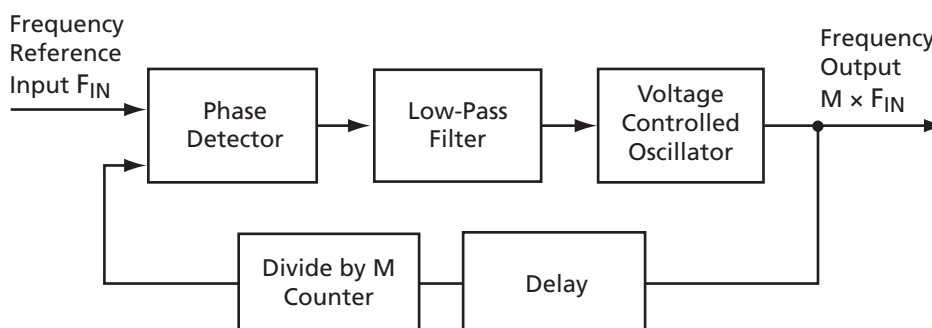

Figure 3-18 • Simplified PLL Core with Feedback Divider and Delay
This section briefly describes the basic principles of PLL operation. The PLL core is composed of a phase detector (PD), a low-pass filter (LPF), and a four-phase voltage-controlled oscillator (VCO). Figure 3-18 illustrates a basic single-phase PLL core with a divider and delay in the feedback path.
Consider Figure 3-18 with the feedback path bypassing the divider and delay elements. If the LPF steadily applies a voltage to the VCO such that the output frequency is identical to the input frequency, this steady-state condition is known as lock. Note that the input and output phases are also identical. The PLL core sets a LOCK output signal HIGH to indicate this condition.